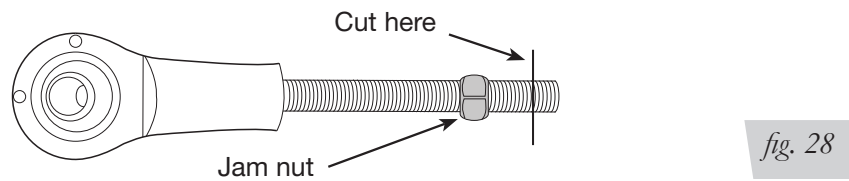

fig. 28
- Before cutting the rod, thread the jam nut back on the rod. Use the nut to deburr the rod end (fig. 28).